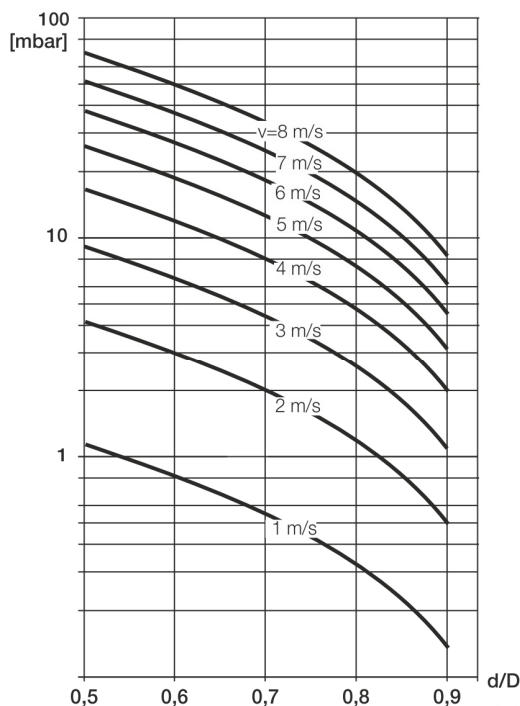

Figure 17: Flow rate nomogram for flange transition piece at $\alpha/2 = 8^\circ$
2. Determine the flow velocity based on the flow rate nomogram (Figure 17).
3. Read the pressure loss on the Y-axis in Figure 17.